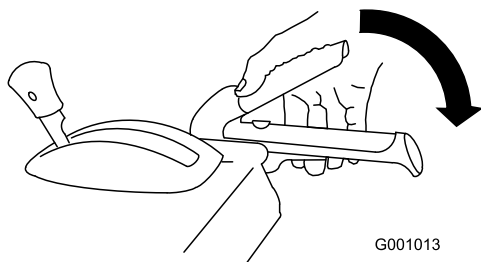

Figure 38
1. To engage the auger/ impeller drive, squeeze the right hand (auger/ impeller) lever to the handgrip (Figure 38).